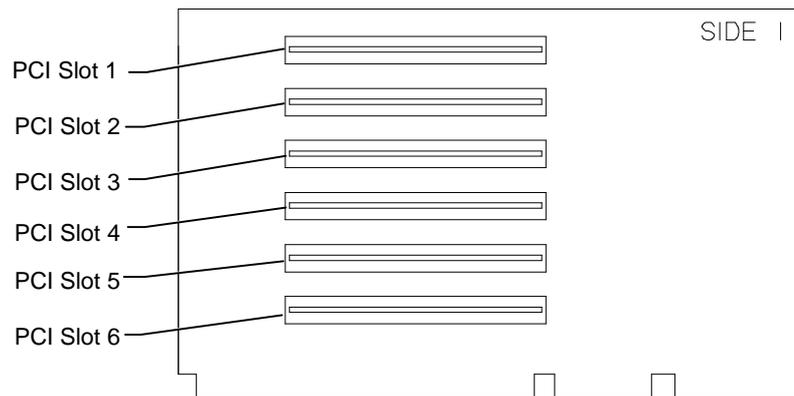

Figure 2-10. Desk-side PCI Slots
Note: In a dual screen configuration, the primary GLZ1 board resides in PCI slot 2 and the secondary GLZ1 board in PCI slot 3. Refer to Figure 2-10 for board and PCI slot location.
1. Using a quarter-inch nutdriver, remove the blanking plate from PCI slot 3. Retain the screws. Refer to Figure 2-10 for board and PCI slot locations.